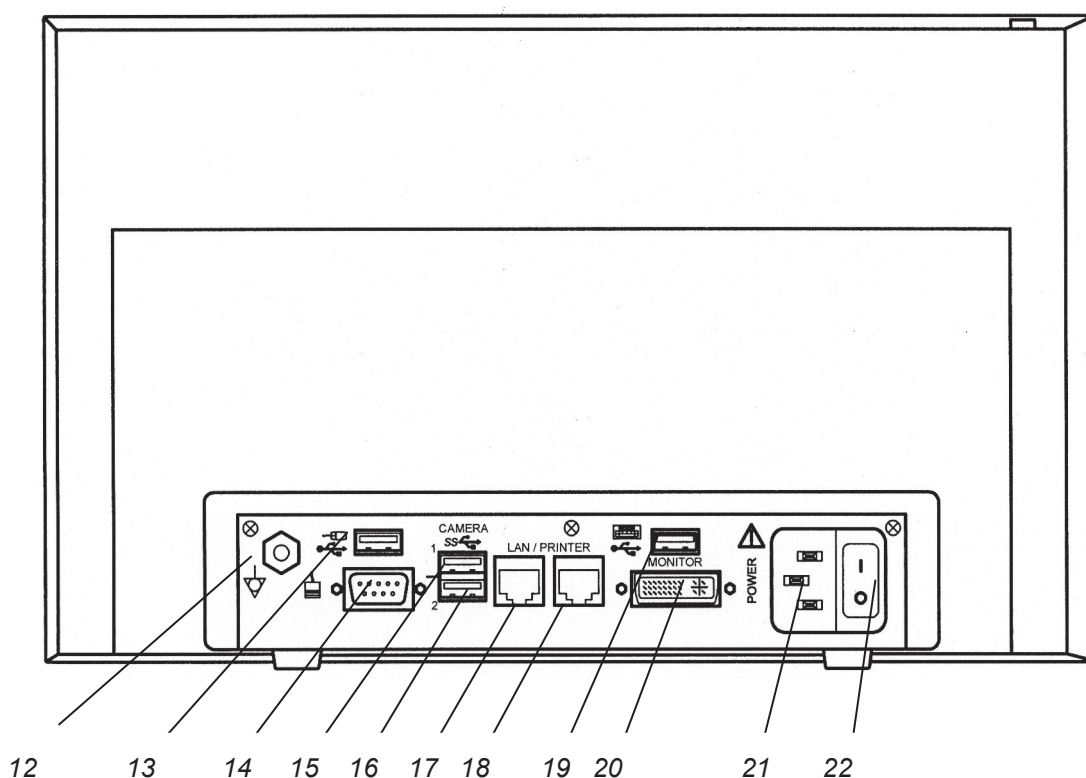

Fig. 2: Rear view Endoscopy System PES Pilot HDpro
Push the shut-down button (Home button) or the stand-by switch (Fig. 1 (1)) and wait approx. 15 seconds until the internal computer is down. After the power indicator light (Fig. 1 (2)) is off the PES Pilot HDpro can be switched off at the mains switch (Fig. 2 (22)). To avoid damage at the internal data structure of the PES Pilot HDpro never switch off the system before it has been properly shut down at the shut-down button or the stand-by switch (Fig. 1 (1))!
- 2.) Connect the power supply cord to the main connection of the device (Fig. 2 (21)).
- 4.) Insert the camera plug into the camera *USB 3.0 socket* on the back of the device (Fig. 2 (15)).
- 5.) Connect the foot switch to the plug on the back of the device (Fig. 2 (14)).
- 6.) If required, connect the mouse (optional) to the USB 2.0 connection (Fig. 2 (13)).
- 7.) If required, connect the keyboard to the USB 2.0 connection (Fig. 2 (19)).
- 9.) To start-up the unit, press the mains switch which is located on the rear side of the camera/display unit (Fig. 2 (22)).
Please make sure that all cables are plugged in correctly. Otherwise it can cause damages on the camera system. Please make sure that the camera is always connected to the correct USB 3.0 port (Fig. 2 (15)).